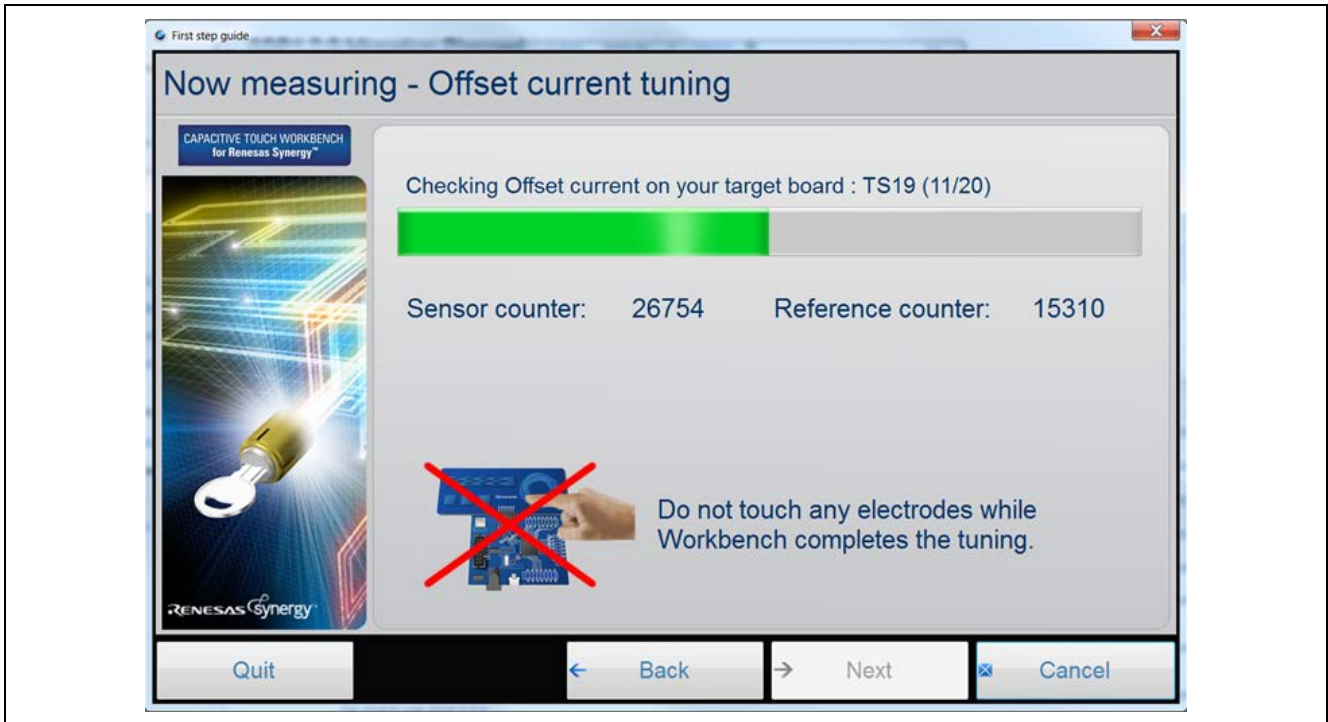

Figure 21. Offset Current Tuning
- Click **Next** as shown in Figure 21 to start **Offset current tuning**.